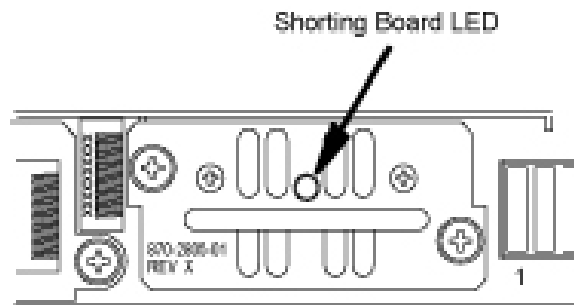

Figure 38: Shorting Board Faceplate, Normal Mode
2. Locate two screws securing the Shorting Board in its slot (see Figure 38: Shorting Board Faceplate, Normal Mode). Note the orientation of the Shorting Board LED. Turn the screws at each corner of the board to the left until they disengage.